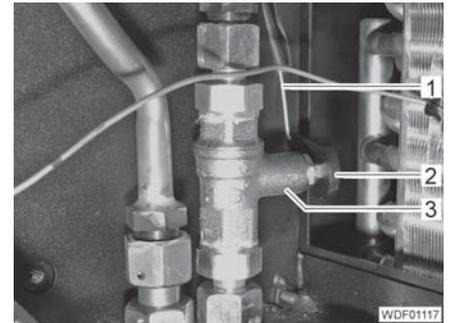

Fig. 402 Bottom fixing of Bowden cable
- Unscrew the screw on the lever (Fig. 402,2).
- Remove the lever and unhook the Bowden cable (Fig. 402,1).
- Hook in the Bowden cable (Fig. 402,1) on the lever (Fig. 402,2).
- Fit the lever onto the shut-off valve (Fig. 402,3).
- Screw in and tighten the screw on the lever (Fig. 402,2).